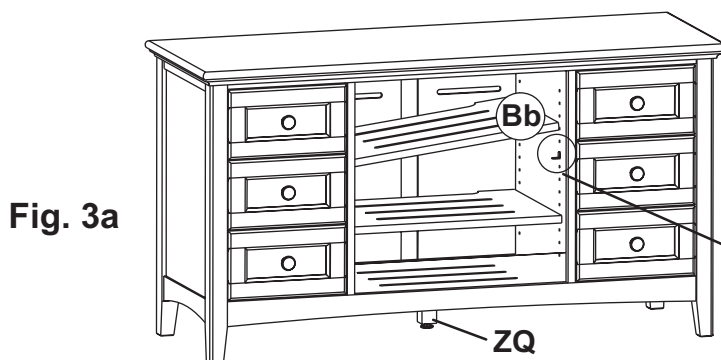

Fig. 3a
3. To move the Adjustable Shelves (Bb), remove the #6 x 1/2" Undercut Screws (M) and the Shelves (Bb). Reposition the Shelf Brackets (L) to the desired positions, replace the shelf and insert the screws. See Figures 3a and 3b.